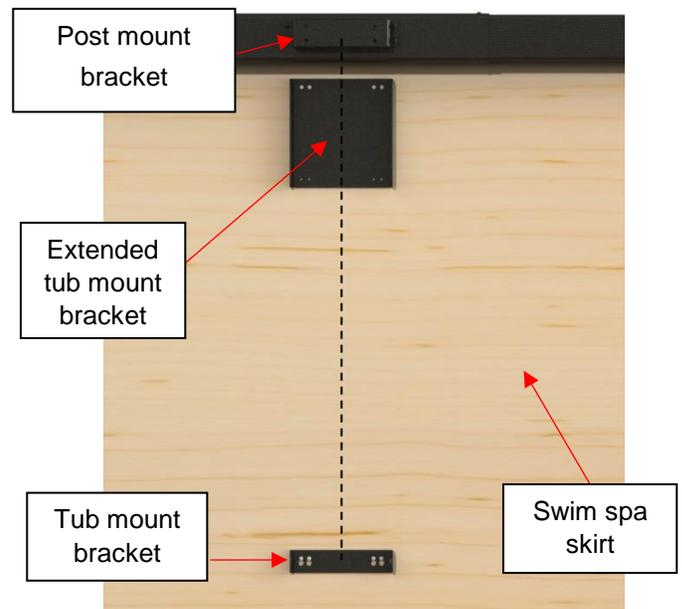

Figure 84
**Note:** Use measuring tape to center the tub mount brackets and/or extend tub mount bracket with the post mount bracket (Figures 84 and 85).